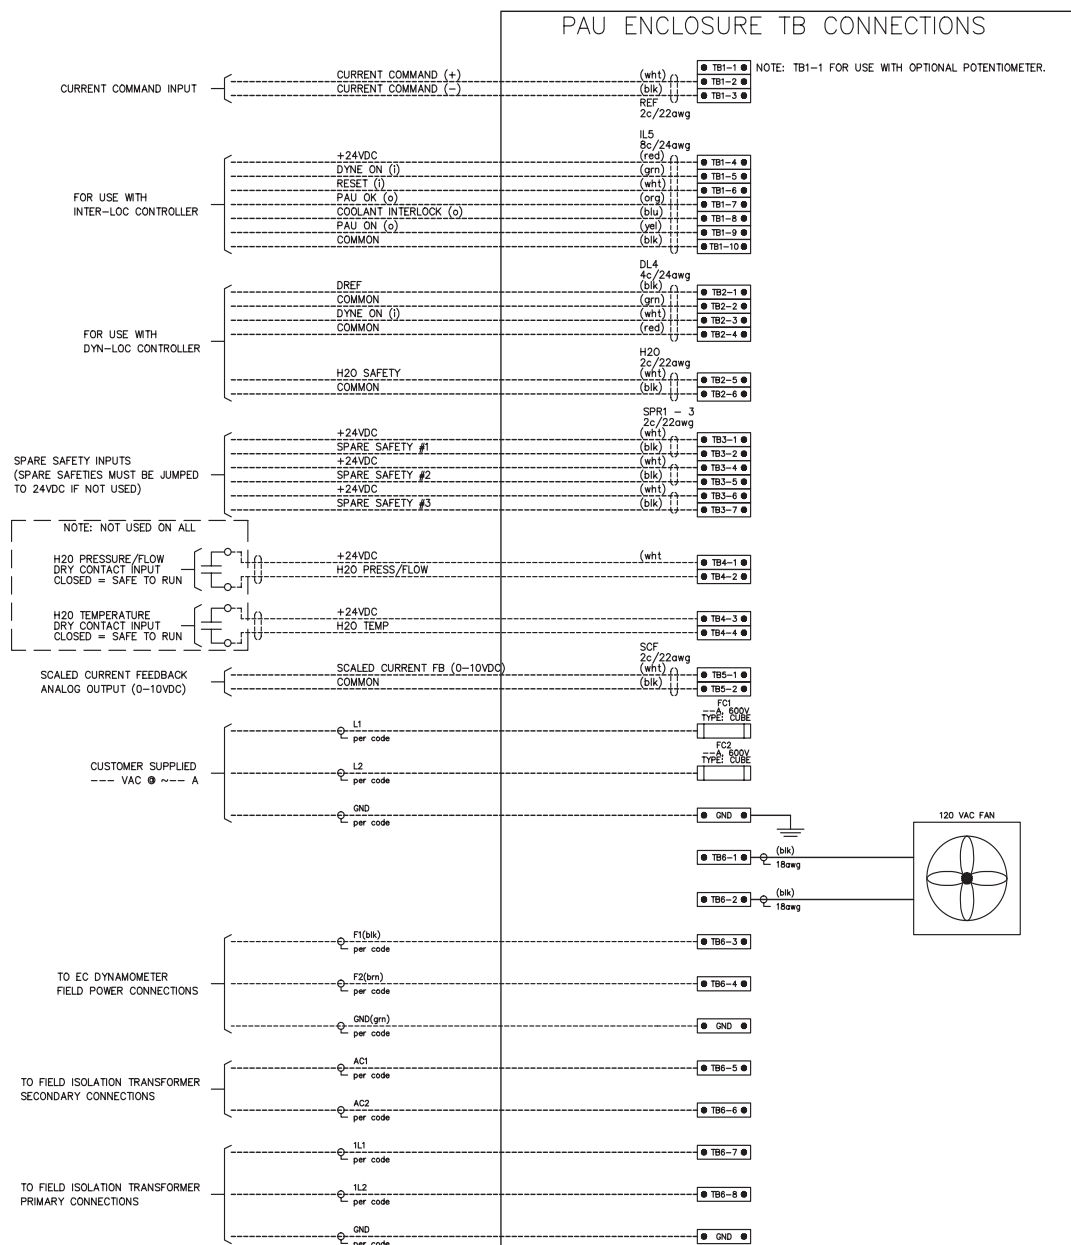

Figure 5.2 - Wall-Mount Terminal Block Connection
2. Connect the wires according to the prints provided (Refer to Figure 5.2).